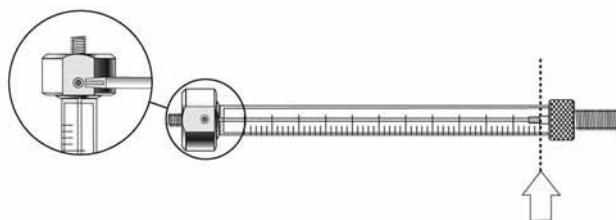

Fig. 63: Installing the plunger holder on the syringe
Remove the plunger holder from the syringe by loosening the Allen screw (→ Fig. 63, page 122) on the holder (Allen key size 6).
6. Prepare the (replacement) syringe by installing the plunger holder (→ Fig. 63, page 122):